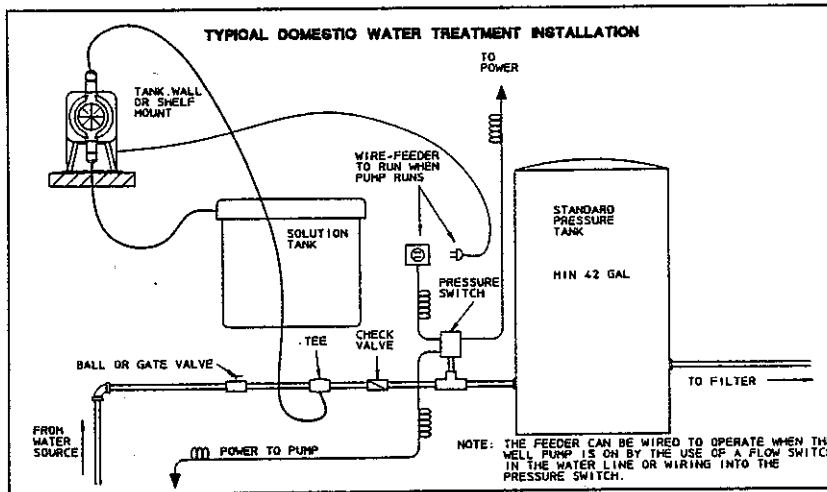

FIG G1
2. Install the anti-siphon/backpressure/injection valve on the discharge side of the metering pump into a tee which is installed into the water line going to the pressure tank. Typical installations are found in figures G1, G2 and G3. **Be sure to install the injection assembly in a vertical position on the bottom side of the water line (Figure J).**